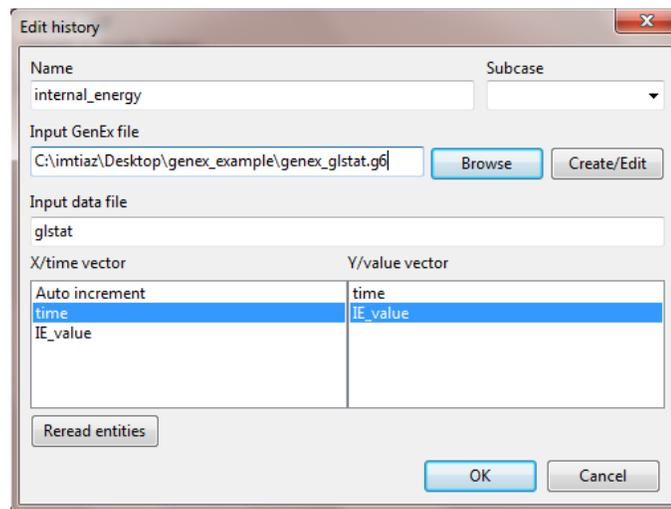

Figure 9: Defining GenEx history in LS-OPT
- Now select the GenEx file created in previous steps as ‘input GenEx file’ of history and *sample_glstat* as ‘input data file’. Once the GenEx file is selected, the entities defined are listed under X/time vector and Y/value vector. Select *time* entity as X vector and *IE_value* as Y vector and click *Ok*, figure 9. Internal energy history using GenEx has been defined. When LS-OPT is executed, the defined entity fields are extracted as histories from *glstat* ASCII files generated as a result of LS-DYNA analysis in each run directory.